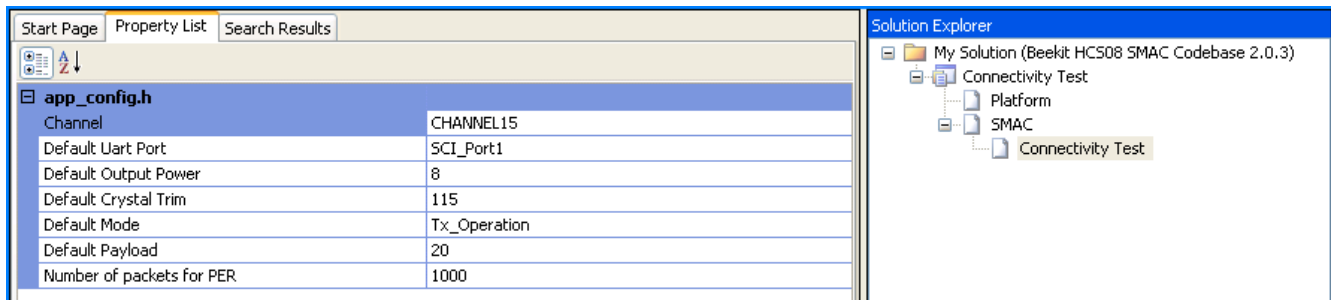

Figure 1-6. Software Component Properties in BeeKit
6. Modify the project properties in BeeKit as shown in Figure 1-6. Use the BeeKit online help for assistance.